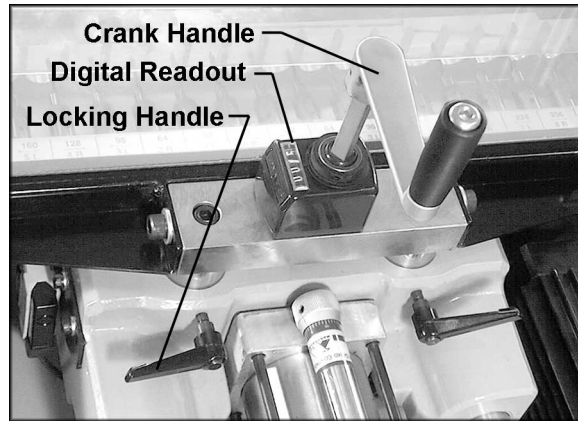

Figure 18
1. Loosen the two locking handles (Figure 18).
7. Lock the boring head in this position, by tightening the two lock handles next to the crank handle (see Figure 18) .
3. If the readout does not indicate 0.20”, lock the boring head by tightening the two lock handles (see Figure 18).